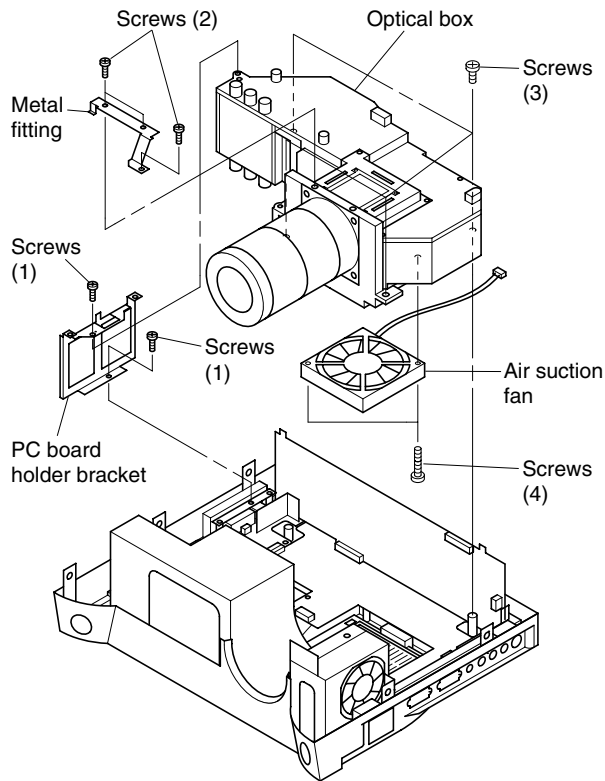

Fig. 3-1-6
3. Remove optical box. (Refer to Fig. 3-1-6.)
4. Remove 1 connector (1).
5. Remove 4 screws (2) and remove main power supply block.
5. Remove 1 connector (1) of Video PC board.
6. Remove 8 screws (2) and remove Video PC board.
7. Remove 3 screws (3) and remove audio PC board.
1. Remove optical box. (Refer to Fig. 3-1-6.)
2. Remove 4 screws (1) and remove lens.
3. Remove 4 screws (1) and remove filter cover.
4. Remove 6 screws (2) and remove mirror block cover.